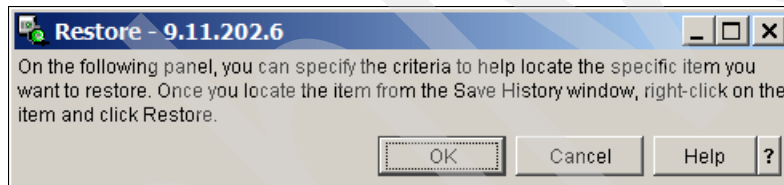

Figure 6-36 Informational window
2. A window, which is displayed next, is informational: It tells you that you can insert criteria by which to choose the object to restore. This window is shown in Figure 6-36. On this window, click **OK**.